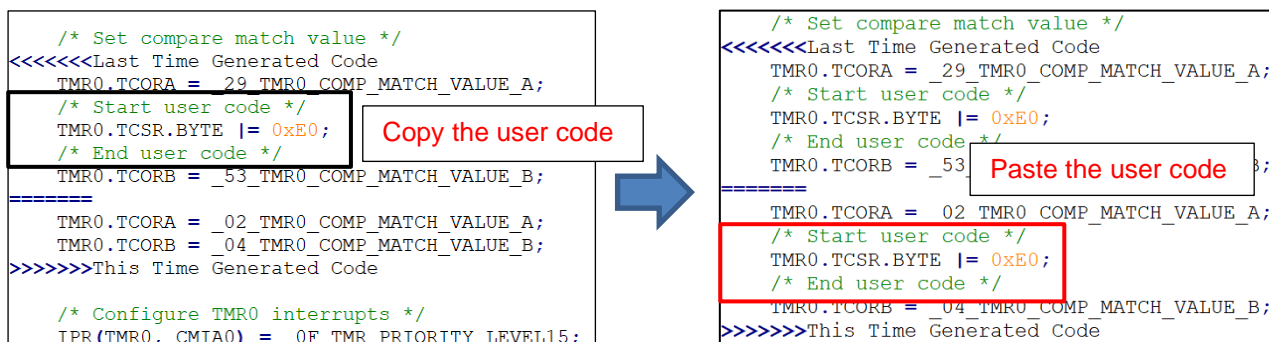

Figure 10-5 Generated conflict code
- 1) Copy the user code from “Last Time Generated Code” and paste it into the new position in “This Time Generated Code” as shown in Figure 10-5.